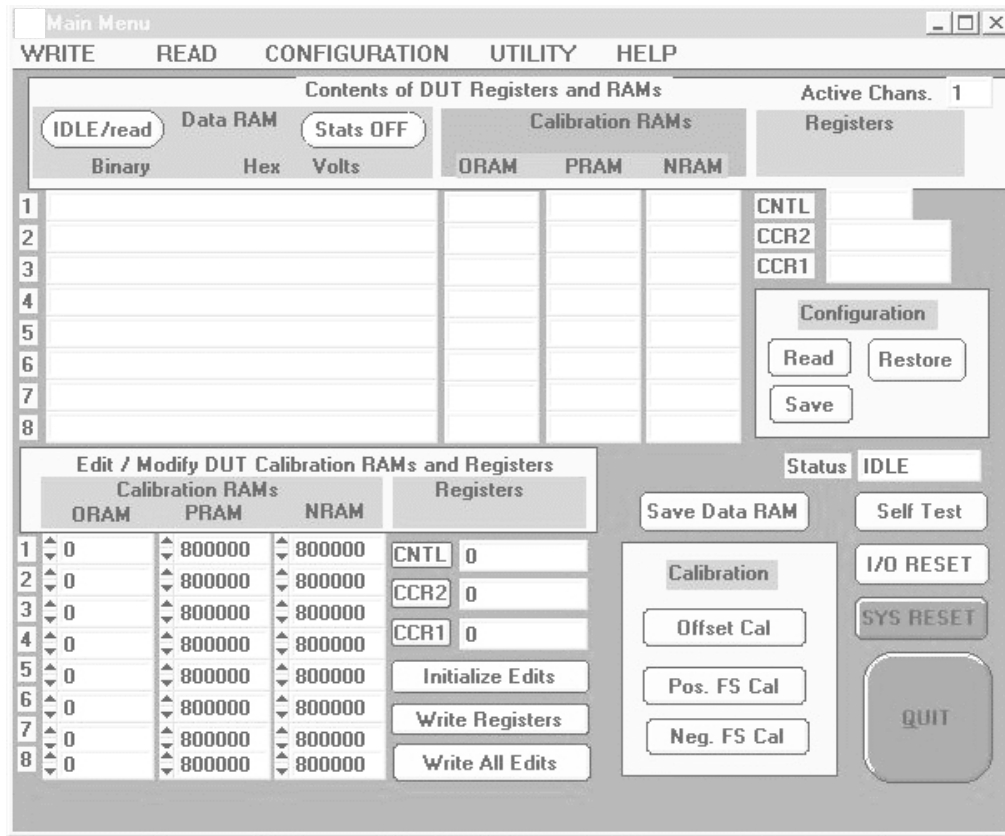

FIGURE 1. MAIN PROGRAM SCREEN
The main panel is divided into two sections identified as "Contents of DUT" and "Edit/Modify" (see Figure 1). The purpose of this division is to logically separate the current HI7188 device under test (DUT) programming with an area for edits/modification. This creates a display that easily facilitates editing the DUT programming while keeping the current configuration in view. The main panel has several buttons that allow the user to launch sub-panels that expand the level of detail. These sub-panels include the CNTL (Control Register), CCR2/1 (Channel Configuration Register) and STATs. To obtain help while the program is operating the user can use a right mouse button over all buttons to activate a help screen. Extensive pull down menus are available for all functions.
1. After the software is loaded onto your computer double click the HI7188 icon. If the port address is correct the main panel (see Figure 1) will appear.